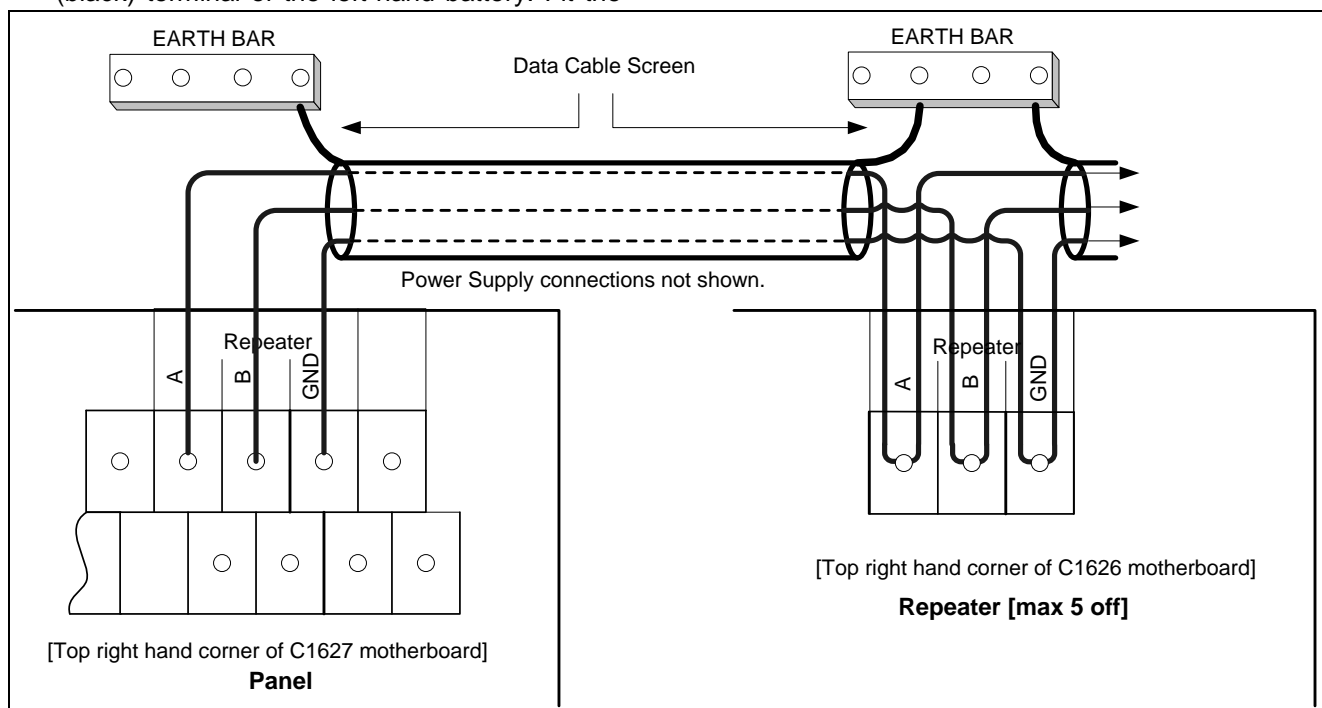

Figure 13 - Repeater connection diagram
3. Connect the RS485 data cable as shown in Figure 13.